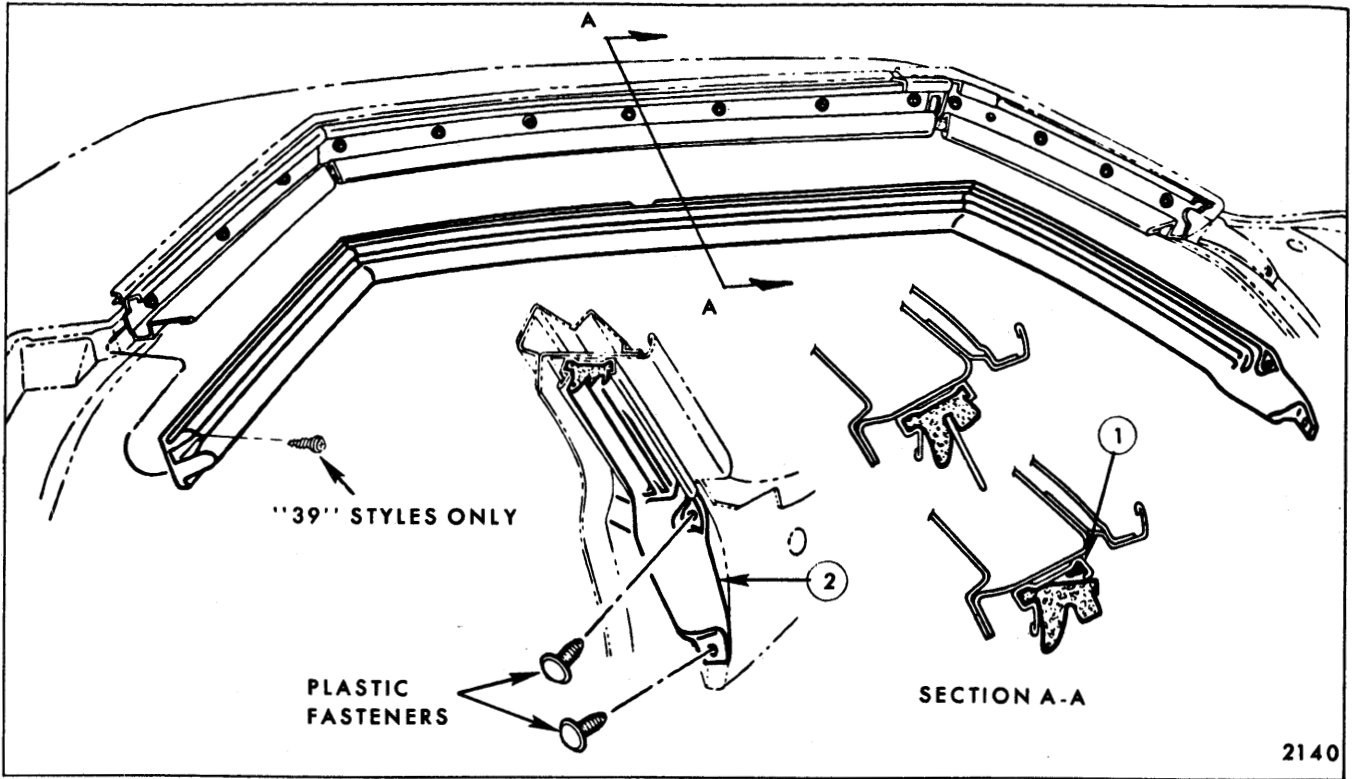
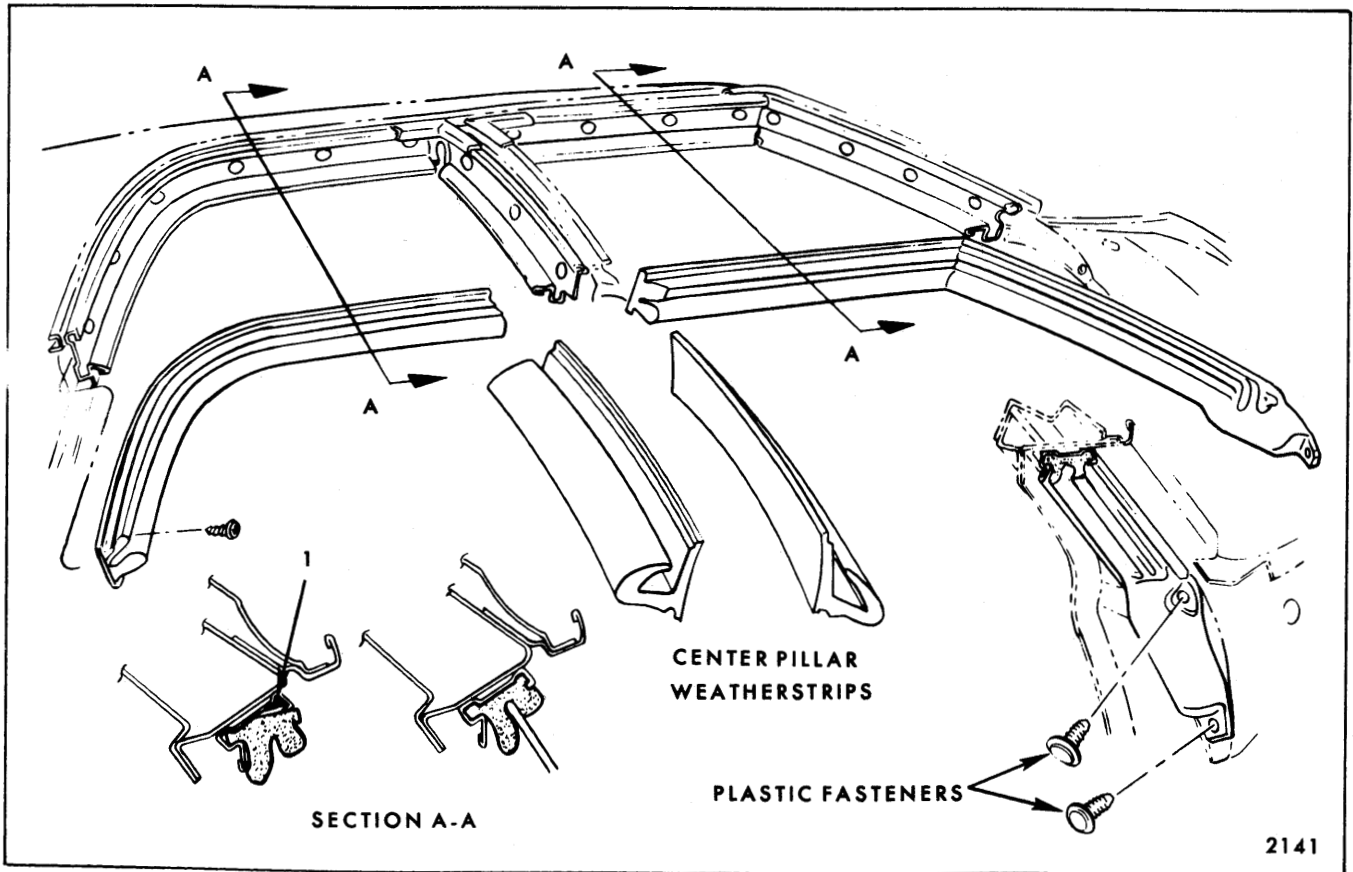
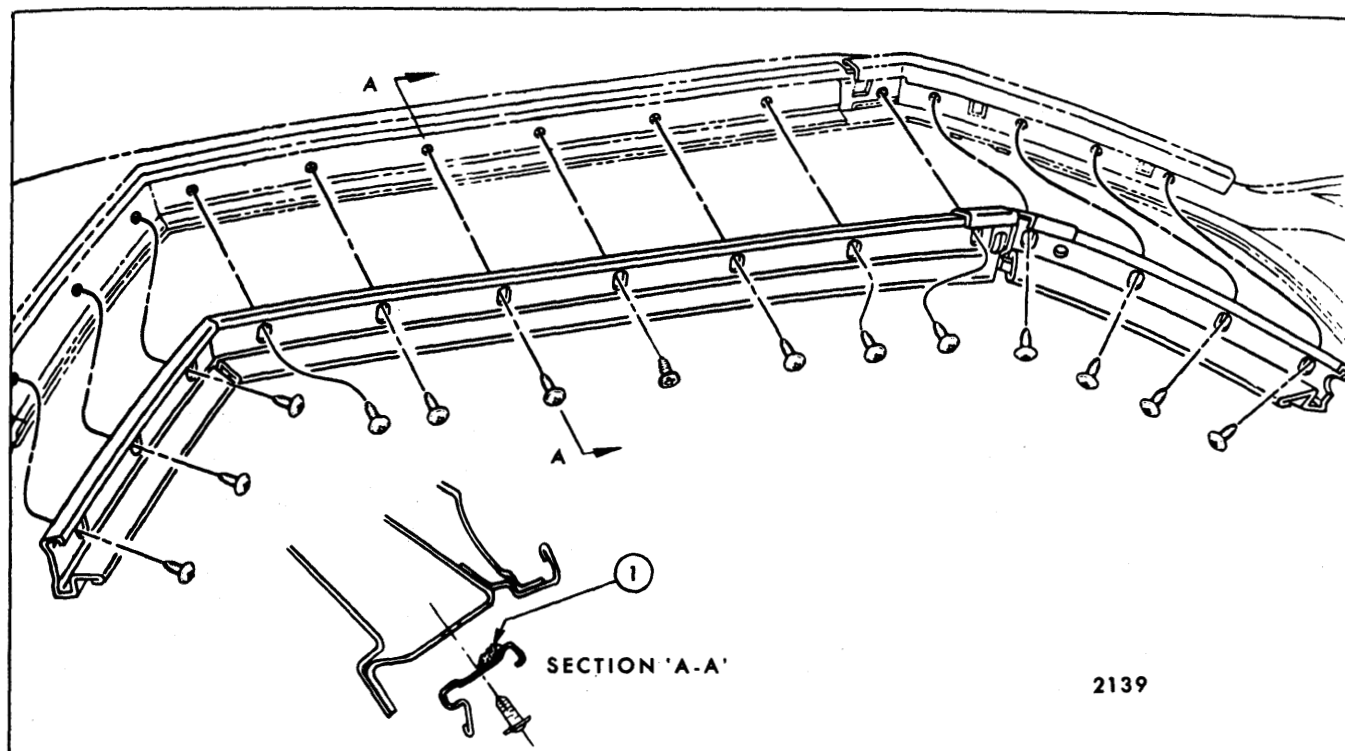

Fig. 7-35—Side Roof Rail Weatherstrip - "17-37-39 and 57" Styles
Fig. 7-36—Side Roof Rail and Center Pillar Weatherstrips - "C-69" Styles
Fig. 7-39—Side Roof Rail Weatherstrip Retainer - "17-37-39 and 57" Styles
1. Remove plastic fasteners at front and screw at rear of side roof rail weatherstrip. On "C-69" styles, plastic fasteners are used at front of front door side rail weatherstrip and screw at rear of rear door side rail weatherstrip (Fig. 7-35 for "17-37-39 and 57" Styles, Fig. 7-36 for "C-69" Styles).
3. With weatherstrip removed, screws securing weatherstrip retainer to side roof rail are exposed. Remove screws to remove side roof rail weatherstrip retainer (Fig. 7-39).
3. Apply a continuous bead of a pumpable type body caulking compound to surface of retainer that mates with side roof rail ("1", Fig. 7-39). Apply bead outboard of attaching screw holes.
4. Position retainer to body and install attaching screws. Prior to installing weatherstrip, re-install door glass stabilizer clip(s) in retainer using retainer screws for retention. (Fig. 7-39 for all styles except "C-69", Fig. 7-36 for clip locations on "C-69" Styles). At front door opening, install clip just forward of front door window upper rear corner. On "C-69" Style rear doors, install clip just rearward of rear door window front upper corner.
5. Apply a bead of black weatherstrip adhesive to outboard flange of weatherstrip retainer ("1", Fig. 7-35 & 7-36). Extend adhesive down front body hinge pillar to seal lower front end of weatherstrip that is retained with plastic fasteners ("2", Fig. 7-35).
6. Position front end of weatherstrip to body and install plastic fasteners. Then, using a flat-blade tool, begin engaging weatherstrip with retainer as shown in Section "A-A", Figures 7-35 and 7-36). Engage inboard lip of weatherstrip first, then, outboard lip.
7. After weatherstrip has been installed along length of retainer on "39" and "C-69" Style, install screw at rear end of weatherstrip (Figs. 7-35 and 7-36).